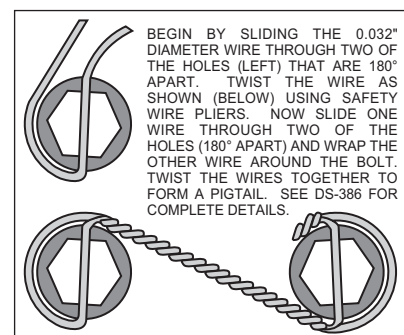

Figure 3. Safety Wire Diagram
- With the larger I.D. side of the rotor (3) facing away from the hat (4), bolt rotor (3) to hat (4) through the backside of the rotor using washers (5) and bolts (6). Be sure all bolts thread in smoothly and are snug. Then, torque all bolts in an alternating sequence to 103 **in-lbs**. The rotor mounting bolts (6) must be lockwired using standard 0.032 inch diameter stainless steel safety wire as shown in Figure 3. Please refer to Wilwood's data sheet DS-386 (available at www.wilwood.org/ds386.pdf) for complete safety wire installation instructions.